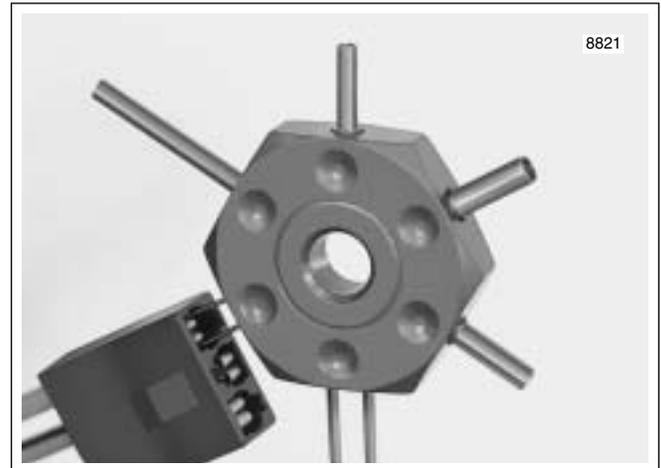

Figure 8-38. Depress Tangs and Remove Terminal
1. Obtain terminal pick (Snap-on® GA500A) like that shown Figure 8-38.